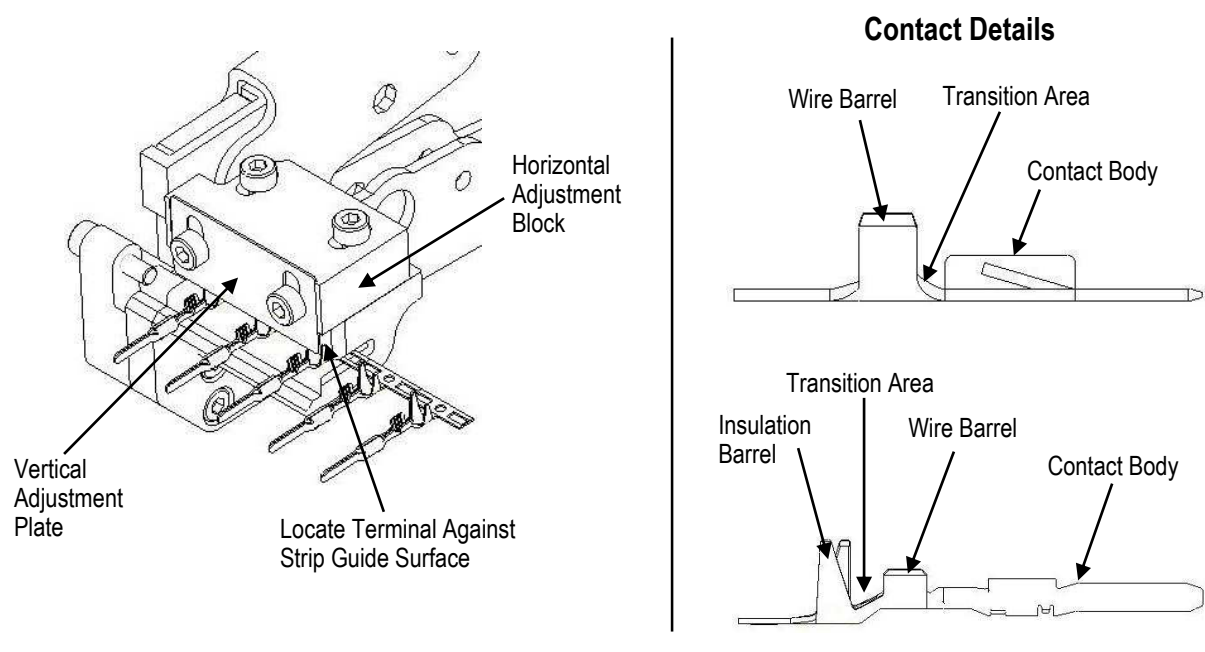

Figure 7
### 4. ADJUSTMENT PROCEDURE [FIGURE 7]
2. Move the Vertical Adjustment Plate and Horizontal Adjustment Block so the terminal strip can be inserted into the Strip Guide; positioning the contact barrel against the Strip Guide surface indicated (see Figure 7).
Some terminals do not have an Insulation Barrel – in that case, use the transition area between the Wire Barrel and the Contact Body to set up the tool (see Figure 7; Contact Details).